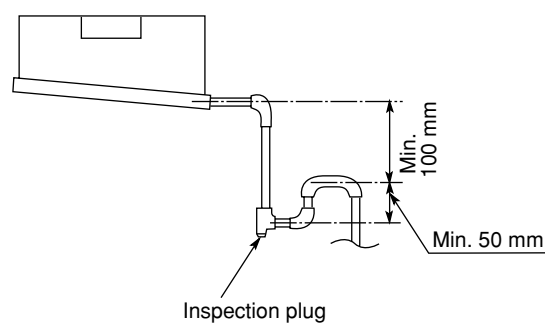

Fig. 3-120c
- (5) Also, in another part of the pipe arrangement, prepare traps with an inspection plug to clean dust or debris that may cause leaking of water. (Fig. 3-120c)
- (6) After connecting the drain piping, slowly pour water into the drain pan to check that the water drains smoothly.